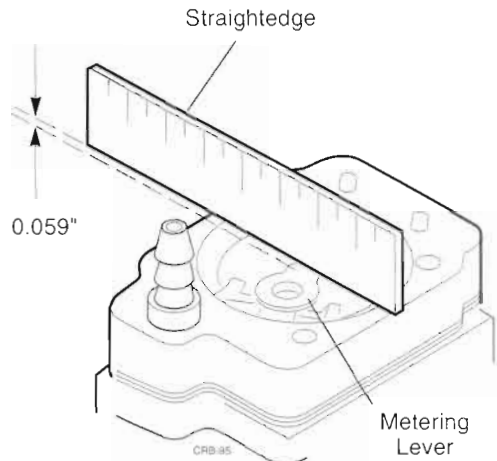

Figure 3.37 Checking Metering Lever Height
- After installing the metering lever assembly, use a straightedge and thickness gauge or use Walbro gauge p/n 500-13 to check for proper metering lever height (Figure 3.37).